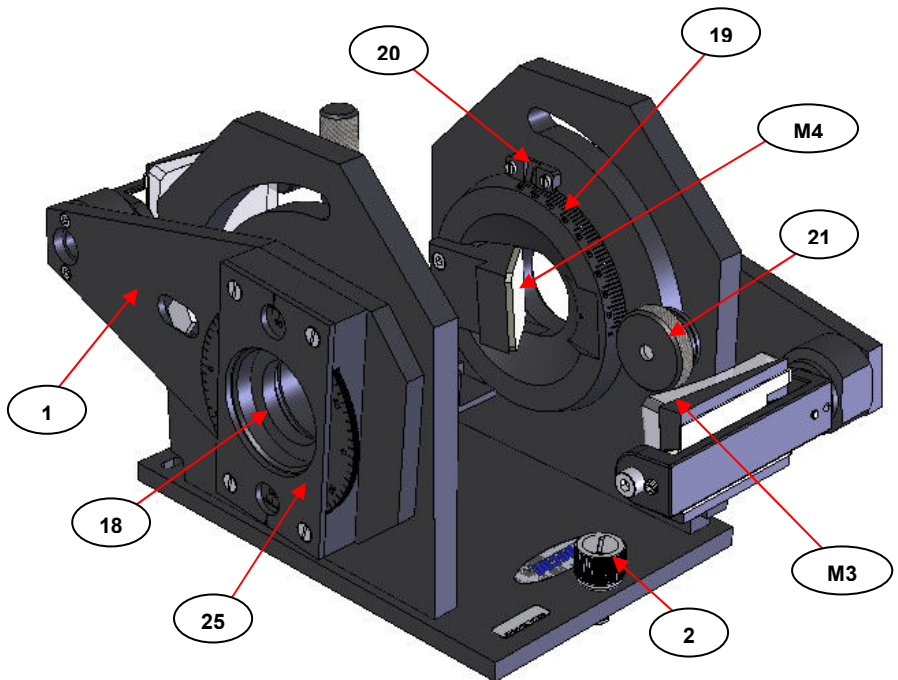
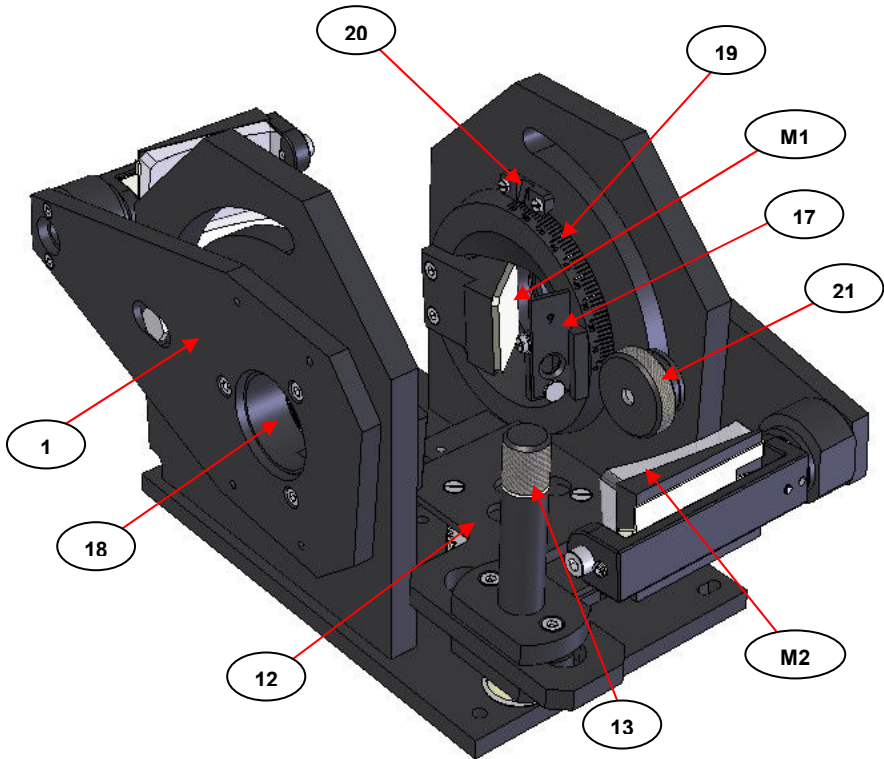

Fig 10. Right Side View of Monolayer Grazing Angle Accessory (Baseplate Fixing Thumbscrew at Rear of Sample Compartment)
Fig 11. Left Side View of Monolayer Grazing Angle Accessory (Baseplate Fixing Thumbscrew at Rear of Sample Compartment)
The Monolayer Grazing Angle Accessory has two very similar butterfly arm (**1**) assemblies. (See **Fig 10.** and **Fig 11.**)
Note: *The views for Fig 10. and Fig 11. are specifically for a Monolayer Grazing Angle Accessory that has been built for use in a **Right to Left Beam** direction spectrometer as the light beam travels through the sample compartment from the source to the detector. In comparison to the light beam passage seen traversing through a **Left to Right Beam** direction system from Fig 1., (page 4), the mirrors **M1**, **M2**, **M3** and **M4** have been relabeled for their particular butterfly arm (**1**) fixing to replicate the appropriate beam sequence for a right to left beam direction.*
In respect of **the particular beam direction** that applies to the spectrometer system being used, specifically the aperture stop holder mount (17) component of the Monolayer Grazing Angle Accessory will be fitted to one or other of the butterfly arms (1). In the right to left beam Monolayer Accessory example seen as the view for Fig 11., the aperture holder mount (17) is fixed to the right side butterfly arm (1) as viewed from the front of the Accessory. For a left to right beam built Monolayer Accessory the aperture stop holder mount (17) will be fixed to the left side butterfly arm as viewed from the front of the accessory.